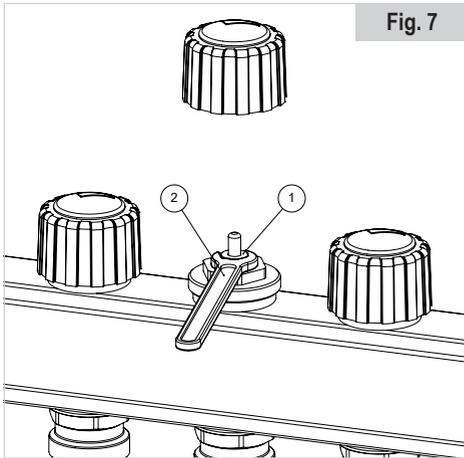

Fig. 7
If necessary, it is possible to intercept a single circuit by acting on the square located on the valve (1) using a 5 mm hexagonal key (2) and screwing the fitting completely in (see Fig. 7).